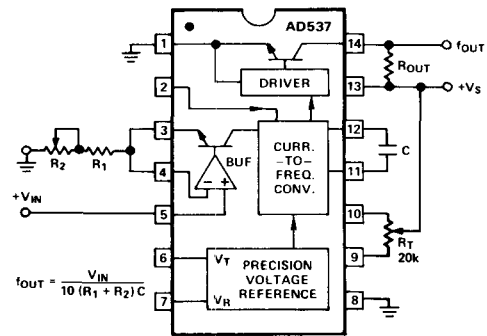

Figure 3. Standard V-F Connection for Positive Input Voltages
- Note 1 Maximum voltage input level is equal to the supply on either input terminal. However, large negative voltage levels can be sensed at the negative terminal if the input is scaled to a nominal 1mA full scale through an appropriate value resistor. (See Figure 3)
The positive voltage input range is from $-V_S$ (ground in single supply operation) to 4 volts below the positive supply. The connection shown in Figure 3 provides a very high (250M Ω) input impedance. The input voltage is converted to the proper drive current at pin 3 by selecting a scaling resistor. The full scale current is 1mA, so a 10 volt range would require a nominal 10k Ω resistor, and so on. The trim range required will depend on capacitor tolerance. Full scale currents other than 1mA can be chosen, but linearity over the whole range will be reduced; 2mA is the maximum allowable drive.
As indicated by the scaling relationship in Figure 3, a 0.01 μ F timing capacitor will give a 10kHz full scale frequency, and 0.001 μ F will give 100kHz with a 1mA drive current. The maximum frequency is 150kHz. Polystyrene or NPO ceramic capacitors are preferred for T.C. and dielectric absorption; polycarbonate or mica are acceptable; other types will affect linearity. The capacitor should be wired very close to the AD537.